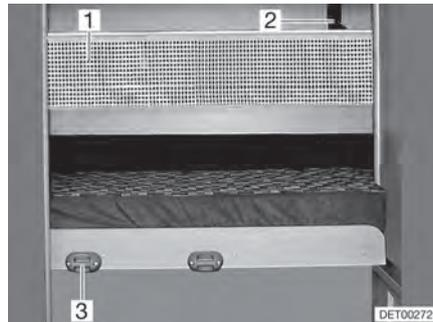

Fig. 79 Safety net
- Attach the access ladder with the rails to the holder (Fig. 79,3) on the panel.
**Safety net** The safety net (Fig. 79,1) is stored as standard between the mattress and slatted frame. Do not use the safety net until the person is already in bed.
- Fasten the retaining straps (Fig. 79,2) to the holders on the ceiling.